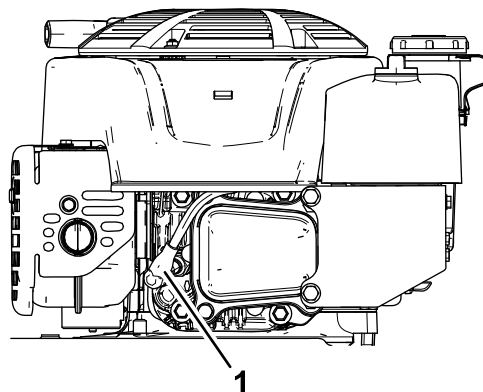

Figure 27
- Disconnect the spark-plug wire from the spark plug (Figure 27).